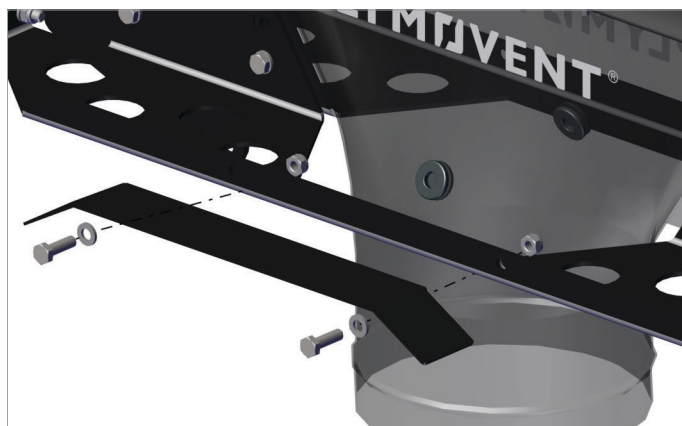

Fig. 4.3.5 Mounting the start/stop bracket on the crab
- Mount the switch activation bracket to the crab using 2x M6x20 bolts with washers and nuts. (in the case of an existing system with an older crab, make sure to predrill holes in the crab!) Refer to fig. 4.3.5.